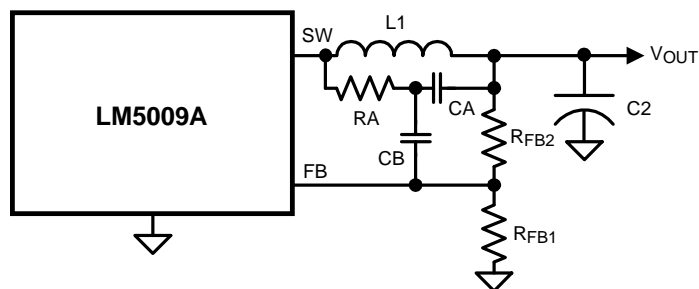

Figure 16. Minimum Output Ripple Using Ripple Injection
**b) Minimum ripple configuration:** If the application requires a lower value of ripple (<10 mVp-p), the circuit of Figure 16 can be used.  $R_3$  is removed, and the resulting output ripple voltage is determined by the inductor's ripple current and  $C_2$ 's characteristics.  $R_A$  and  $C_A$  are chosen to generate a sawtooth waveform at their junction, and that voltage is AC-coupled to the FB pin via  $C_B$ . To determine the values for  $R_A$ ,  $C_A$  and  $C_B$ , use the following procedure: